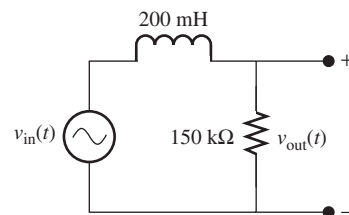

FIGURE P7.47 Circuit for Problem 7.47.
7.47 (B) Given the circuit in Figure P7.47, with an AC voltage source (Amplitude 12 V), use PSpice to sketch the Bode plot of $v_{out}(t)$.